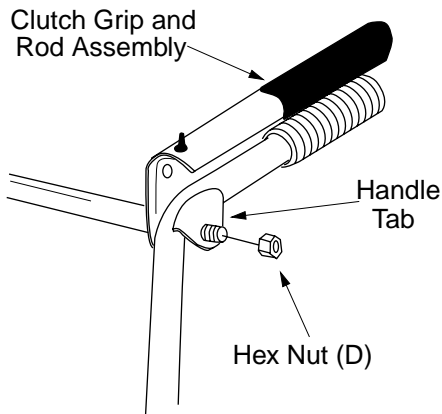

Figure 7
3. Insert clutch grip and rod assembly into handle tabs. Clutch grips must sit on top of the handles. Thread hex nuts (D) on each end to hold into position. Do not tighten. See Figure 7.